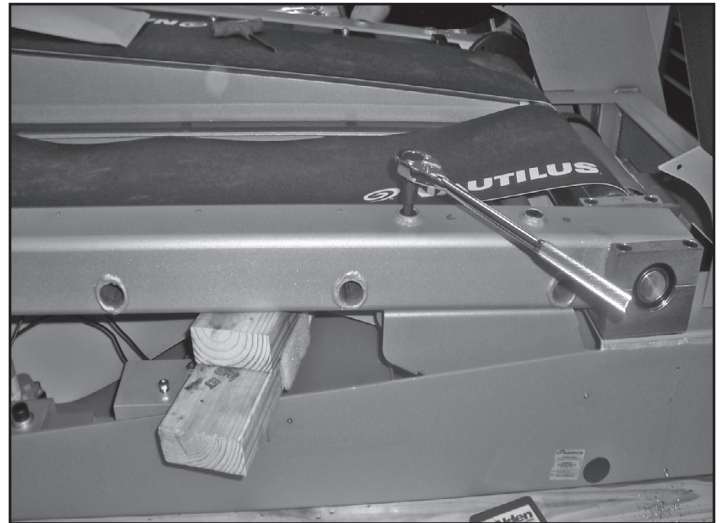

Figure 5: Brace treadles with wooden blocks.
- 8-10:** Brace treadles with blocks 4-6 inches (10-15 cm) thick (see Figure 5).